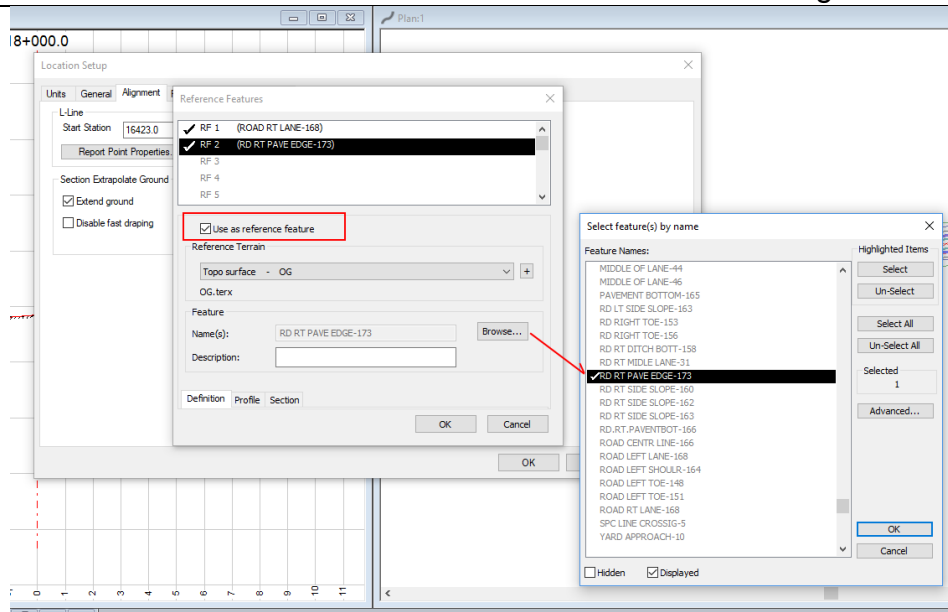

Figure 2 – Setting up Lane and Shoulder Reference Features.
2. Choose menu Setup | Location Setup | Alignment | Features. Setup Reference Features *RF 1* and *RF 2* as shown in Figure 2 below: